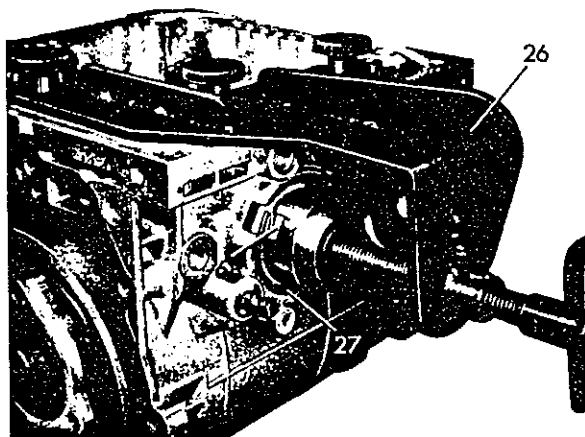

Fig. 13
17 Mount assembly fixture (26) for brake band piston cover B 1, tighten and remove snap ring (27) **Fig. 13**